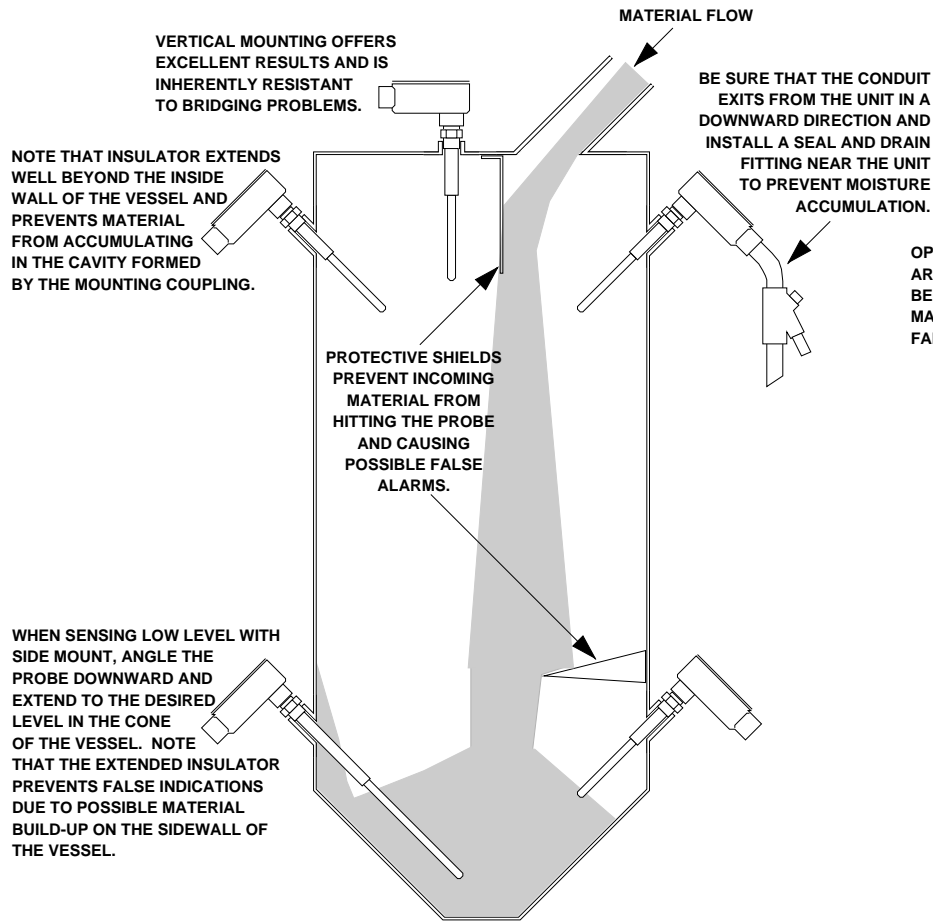

Figure 3.1: Suggested Mounting Arrangements
- 3.2 Select a mounting location for the LV750 unit and its attached sensing probe. See Figure 3.1 for recommended mounting practices. Figure 3.2 shows some mounting methods which have proven to be troublesome. Be sure that there is sufficient clearance around the mounting position to allow for the turning radius as the unit is screwed into place. Also, in the case of rigid probes, allow sufficient room to be able to insert the probe into the opening in the vessel. Cut a hole in the vessel that is at least large enough to allow the insulator portion of the probe to extend into the inside of the vessel and mount a threaded coupling to the vessel. The thread size of the coupling should be 1/2" NPT for standard probes. A 3/4" NPT fitting is required for some of the optional probes.
- 3.3 Screw the LV750 unit into the coupling and install conduit suitable to the environment in which the unit is to be used. See Figure 3.1 for a suggested conduit arrangement.
Probe is mounted in flow of material.	Revise mounting. See Figures 3.1 and 3.2 .